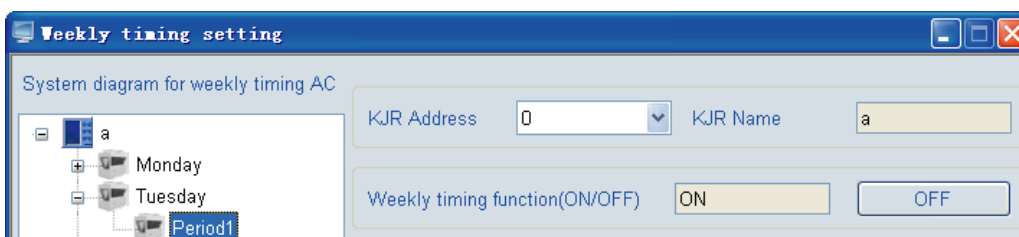
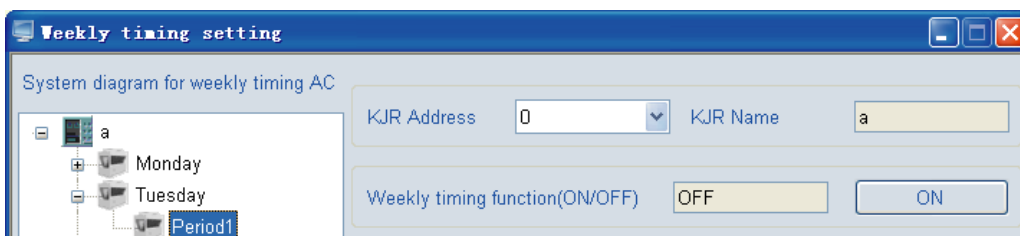
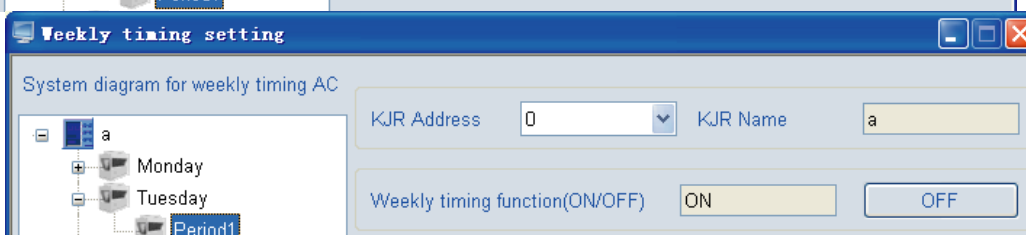

Fig.4-30
Fig.4-31
Fig.4-32
- d. Timing ON/OFF key for controlling the weekly timing wired controller (See the ① key in the figure) — — when Weekly Timing Function is ON, the key shows OFF (see Fig. 4-30), once click the key, all weekly timing function would be turned off, and then the Weekly Timing Function displays OFF, while the key shows ON (see Fig. 4-31); when Weekly Timing Function is OFF, the key shows ON (see Fig. 4-38), once click the key, all weekly timing function would be turned on, and then the Weekly Timing Function displays ON, while the key shows OFF (see Fig. 4-32)